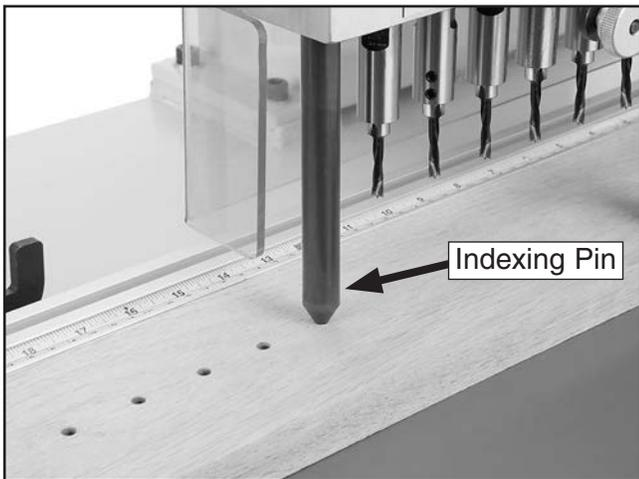

Figure 26. Using the indexing pin to position workpiece for additional drilling (boring head guard removed for photo clarity).
5. If you need to drill more than 15 holes, push the indexing pin into the last previously drilled hole to position the workpiece, as shown in **Figure 26**.